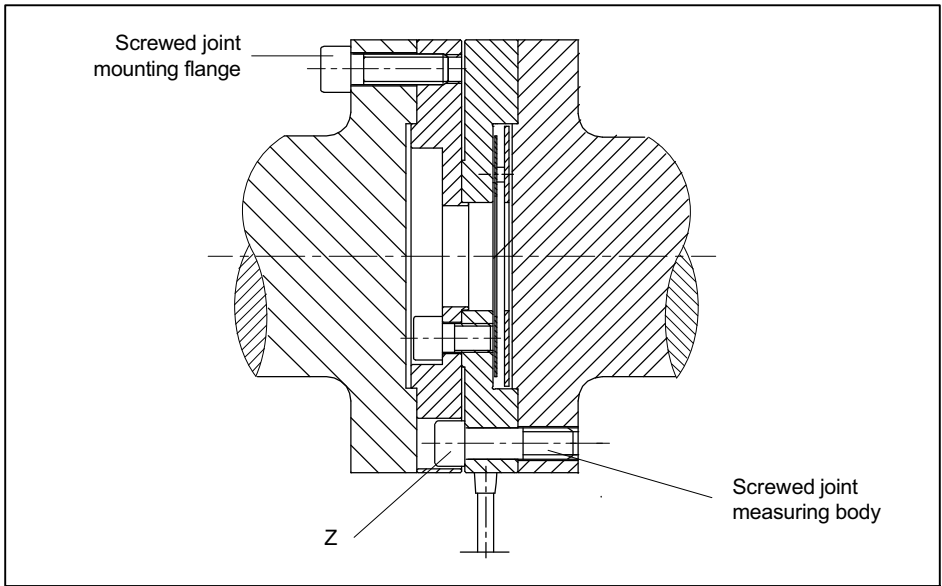

Fig. 5.3 Screwed joint of the measuring body
The screw heads (Z), see *Fig. 5.3*, must not sit on the mounting flange.